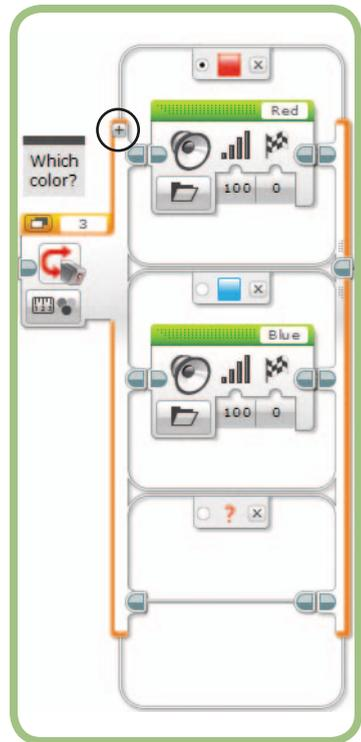

Figure 6-14: Adding a new case
So far, this program only really identifies blue objects, because it will declare any nonblue object to be red (because red is marked as the default case). In this section, you'll modify the program to correctly identify red objects and say "Uh-oh" when it can't determine an object's color. The Switch block currently has two cases: one for red objects and one for blue objects. The *Add Case* button, highlighted in Figure 6-14, will add a new case to the Switch block. If you add a case and then later want to remove it, click the button with the small x on the right side of the tab at the top of the case.
4. Click the **Add Case** button. The Switch block should look like Figure 6-14.